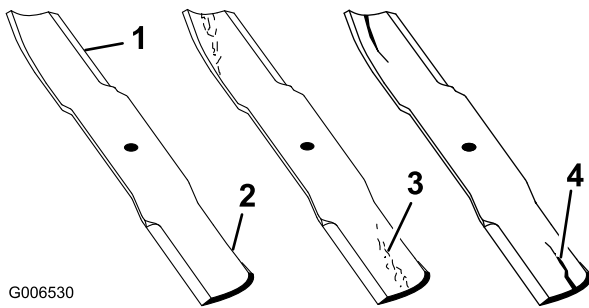

Figure 92
1. Inspect the cutting edges (Figure 92). If the edges are not sharp or have nicks, remove and sharpen the blades. Refer to Sharpening the Blades.
2. Inspect the blades, especially the curved area (Figure 92). If you notice any damage, wear, or a slot forming in this area (Figure 92), immediately install a new blade.